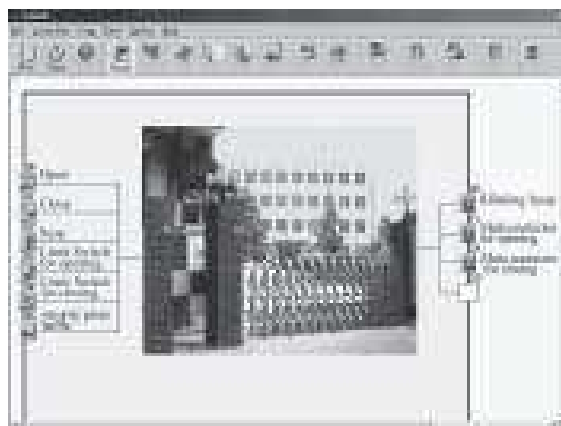

Fig. 4.31 Standard Field Simulation Graph
5. Click **Open Old File** to insert the said picture into the Simulation Graph editing box. Draw a complete Field Simulation Graph as shown in Fig. 4.31.